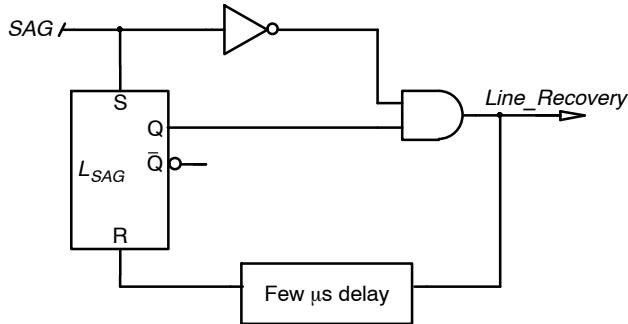

Figure 19. “Line_Recovery” Signal
- When the soft-stop sequence ends, the PFC stops operating until the T_{BUV} delay has elapsed (515 ms typically). However, if the BUV protection trips during a line sag condition, the T_{BUV} delay is bypassed and operation immediately resumes when the line recovers. The wakeup information is provided by signal “Line_Recovery” generated by the line-sag block (see Figure 19). This enables a rapid operation recovery when the line fault is over.